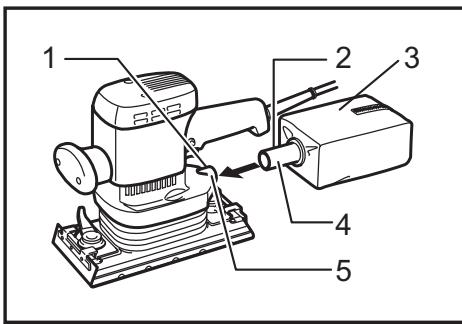

Fig.5
► Fig.5: 1. □ Mark 2. □ Mark 3. Dust bag 4. Entry port 5. Dust spout